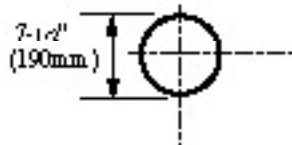

Fig. 22
Locate vent opening on the wall. It may be necessary to first position the fireplace and measure to obtain hole location. Depending on whether the wall is combustible or non-combustible, cut opening to size. (Fig. 22)
(For combustible walls first frame in opening. Fig. 22).
COMBUSTIBLE WALLS : Cut a 9-3/8"H x 9-3/8"W (240 mm x 240 mm) hole through the exterior wall and frame as shown (Fig. 22).
1. Establish vent hole through the wall (Fig. 22).